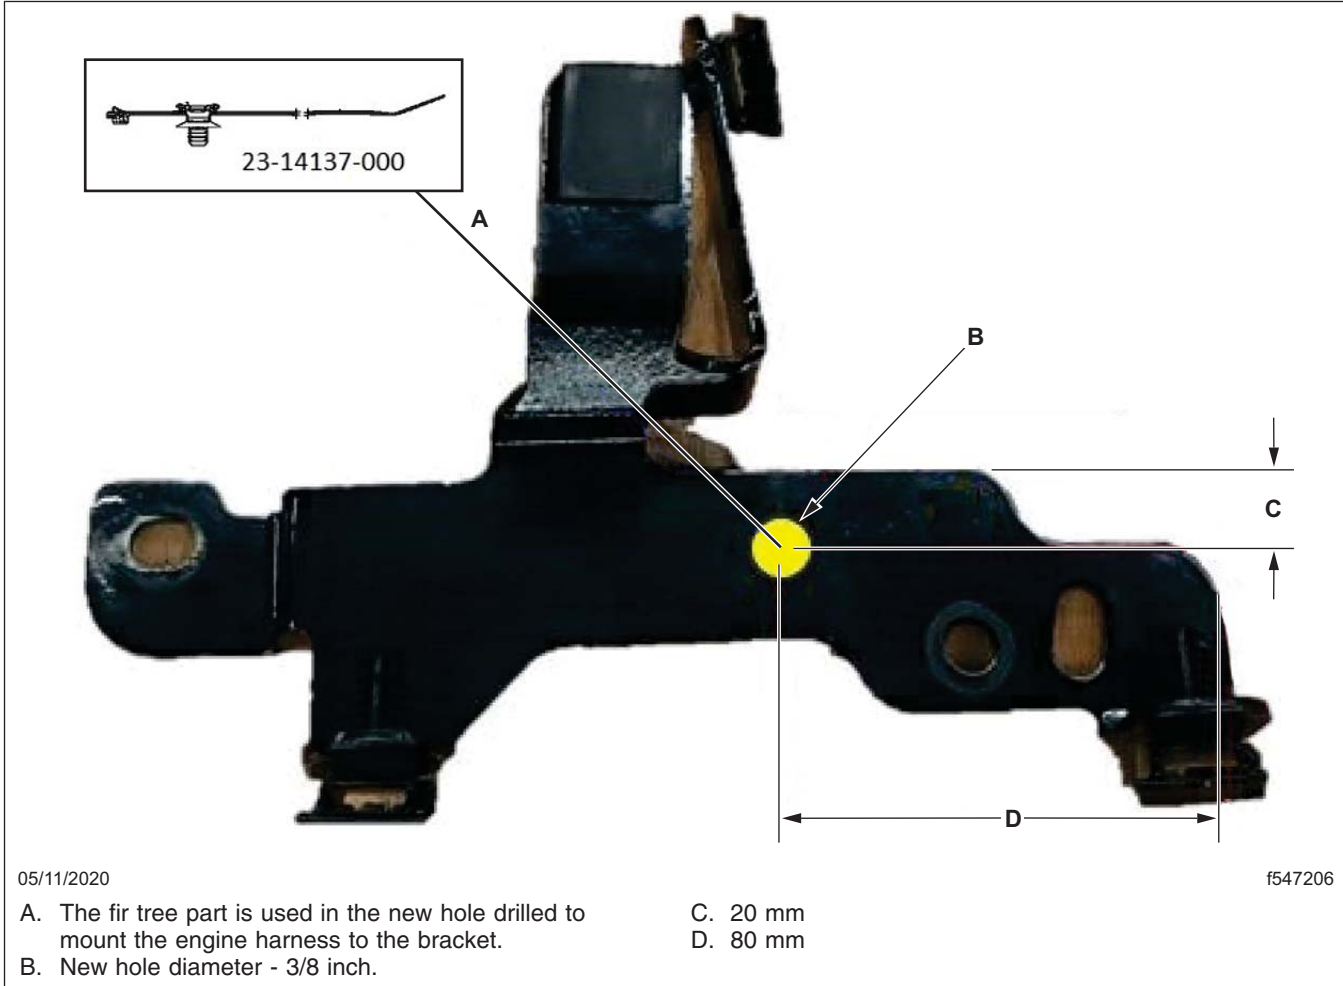

Fig. 3, New Hole Dimensions on the Bracket
6. Using Fig. 3 as a reference, drill a 3/8 inch hole in the bracket.